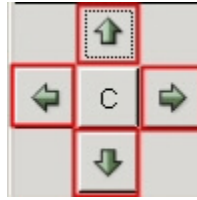

Figure 4.8
3. By clicking only one time on the rotate buttons (Figure 4.8), the view will change from a direct view to a slightly off-center view, which will enable you to see the tunnel.